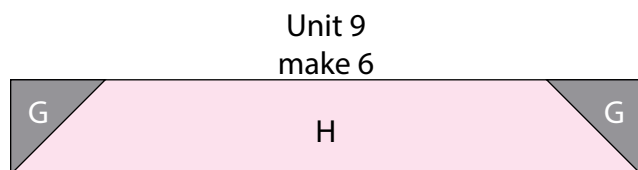

Fig. 20
14. Repeat Steps 10-11 and refer to Figure 20 for fabric identification, placement, seam direction and orientation while using (12) 3 ½" Fabric G squares and (6) 3 ½" x 20 ½" Fabric H strips to make (6) Unit 9 strips.